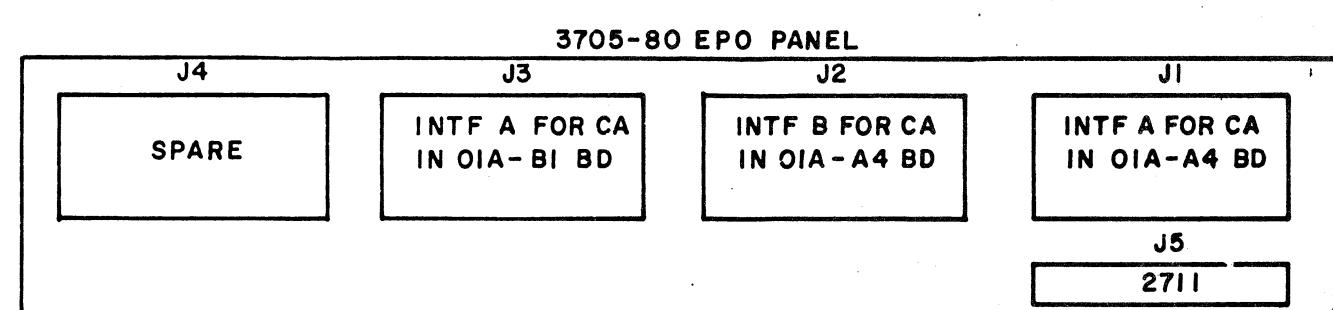

FIG.7.0
**NOTE 1: IN ORDER TO BRING POWER-ON INDEPENDENT OF THE CPU(S) EMERGENCY POWER-OFF (EPO) CABLE, A DUMMY EPO PLUG, P/N 5182923, MUST BE PLACED IN ANY ONE OF THE CPU EPO RECEPTACLES, J1 THRU J4 SHOWN IN FIGURE 7.0 BELOW, IN THE 3705-80. IT IS EXTREMELY IMPORTANT THAT THE EPO PLUG BE REMOVED WHEN LEFT UNATTENDED AND WHEN THE CPU(S) EPO CABLE HAS BEEN ATTACHED.**
11.2 IF A START/STOP LOCAL ATTACH DEVICE IS TO CONNECT TO THE 3705-80, THE LINE INTERFACE CARD LOGICALLY ATTACHED TO THAT DEVICE MUST BE REJUMPERED ACCORDING TO LOGIC SHEET VA004 (VOL. 46). IF APPLICABLE, USE THE CHART ABOVE TO DETERMINE THE CARD AFFECTED, WHICH IS DEPENDENT UPON THE SYSGEN ADDRESS(ES) OF THE START/STOP LOCAL ATTACH DEVICE.
NOTE 1: IN ORDER TO BRING POWER-ON INDEPENDENT OF A CPU(S) EMERGENCY POWER-OFF (EPO) CABLE, A DUMMY EPO PLUG, P/N 5182923, MUST BE PLACED IN ANY ONE OF THE CPU EPO RECEPTACLES, J1 THRU J4 (SEE FIG 7.0, PAGE 7), IN THE 3705-80. IT IS EXTREMELY IMPORTANT THAT THE EPO PLUG BE REMOVED, WHEN LEFT UNATTENDED DURING INSTALLATION OR IF A CA-1 OR CA-4 IS INSTALLED IN THIS 3705-80 AND THE CPU(S) EPO CABLE HAS BEEN ATTACHED.